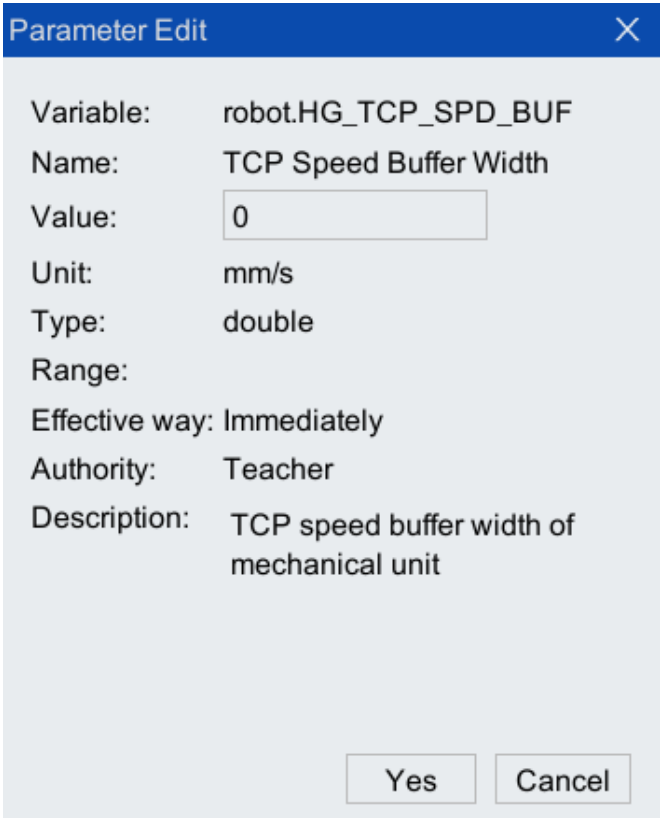

Figure 5-46 TCP speed buffer width parameter setting interface
Step4. In the pop-up [Parameter edit] interface (as shown in Figure 5-46), configure the [Value]. Parameter description is shown in Table 5-11.